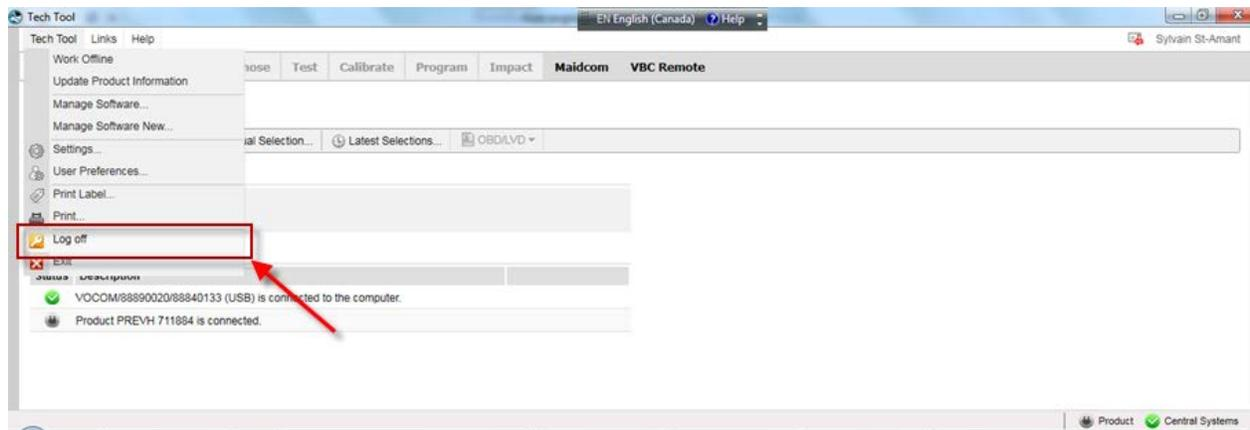

FIGURE 39
11. Log Premium Tech Tool off (FIGURE 39).